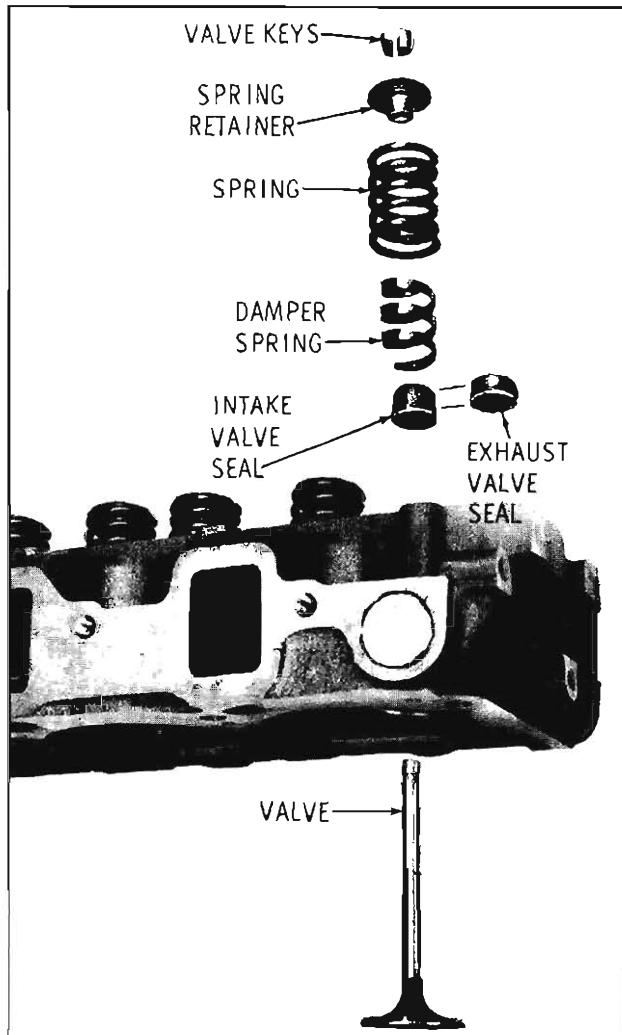

Fig. 3-415 Valve Assembly - Exploded View
3. Remove valve spring retainers and springs. (Fig. 3-415)